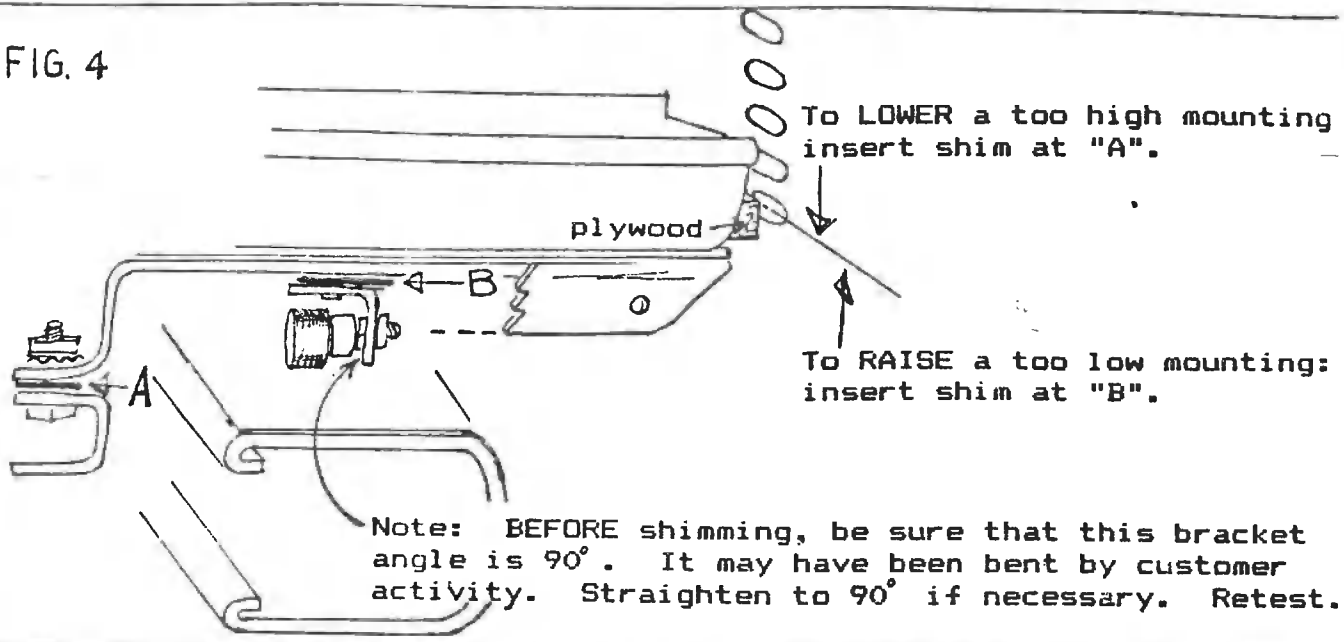

FIG. 5
2. Correct horizontal alignment is shown in Fig. 2, detail b; where the vertical row of sensor eyes is centered along the midline of the tape carriage. If the sensors appear to be left or right of center, the plastic switch interrupter (Fig. 5) can be adjusted. If the row of sensor eyes are LEFT of center, loosen the screws and move the plastic interrupter slightly to the right. If they are RIGHT of center, move the interrupter slightly to the left.